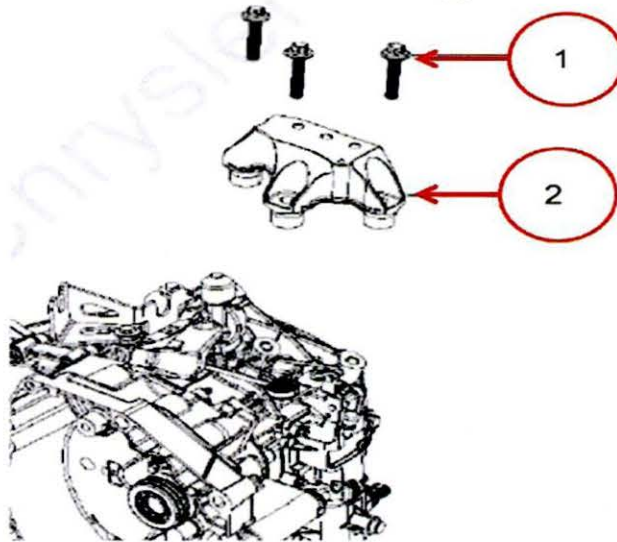

Fig. 10 Upper Transaxle Mount
29. Install the upper mount spacer to transmission housing (Fig. 10). Torque the bolts to 80 NM (59 ft. lbs.).